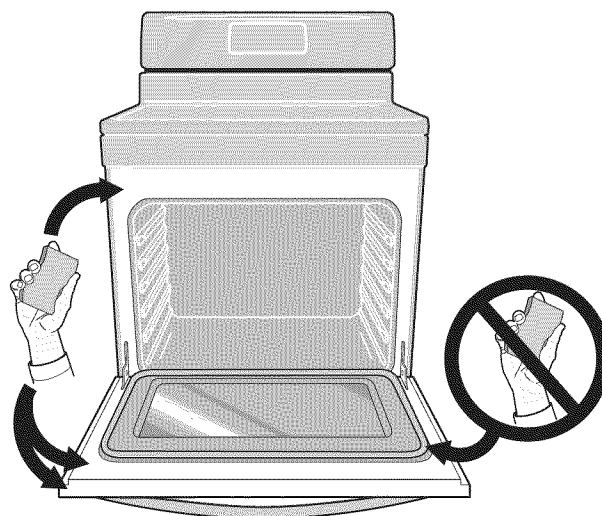

Figure 39: Areas to clean and to avoid
- Do not use oven cleaners or oven protective coatings in or around any part of the oven interior. Clean any soil from the oven frame, the door liner outside the oven door gasket, and the small area at the front center of the oven bottom (See Figure 39). These areas heat sufficiently to burn soil on. Clean using soap and water prior to starting Self Clean.